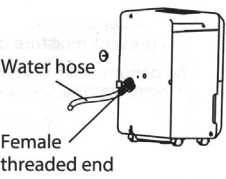

Fig. 8
- Install the female threaded end of the water hose into the adaptor A. (See Fig. 8), then lead the water hose to the floor drain or a suitable drainage facility.